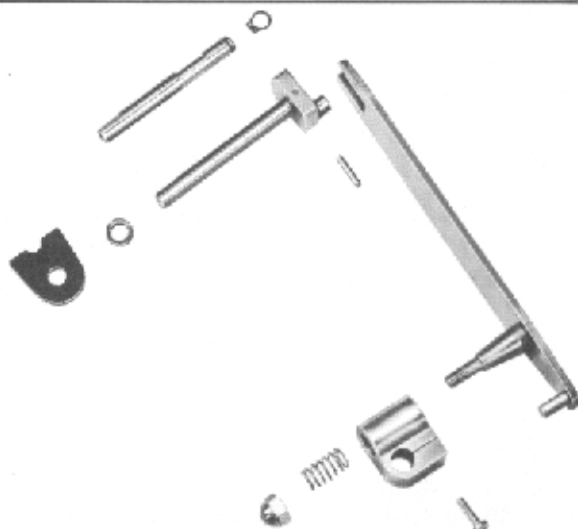

FIGURE 14
e. Component parts are shown in figures 14, 15, and 16.